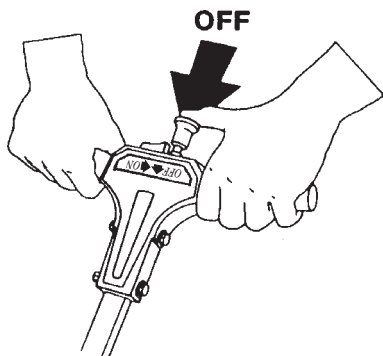

Figure 8
1. Place the spreader on a driveway or sidewalk – not on the lawn. Make sure the spreader is off by pushing the control knob in. See Figure 8.